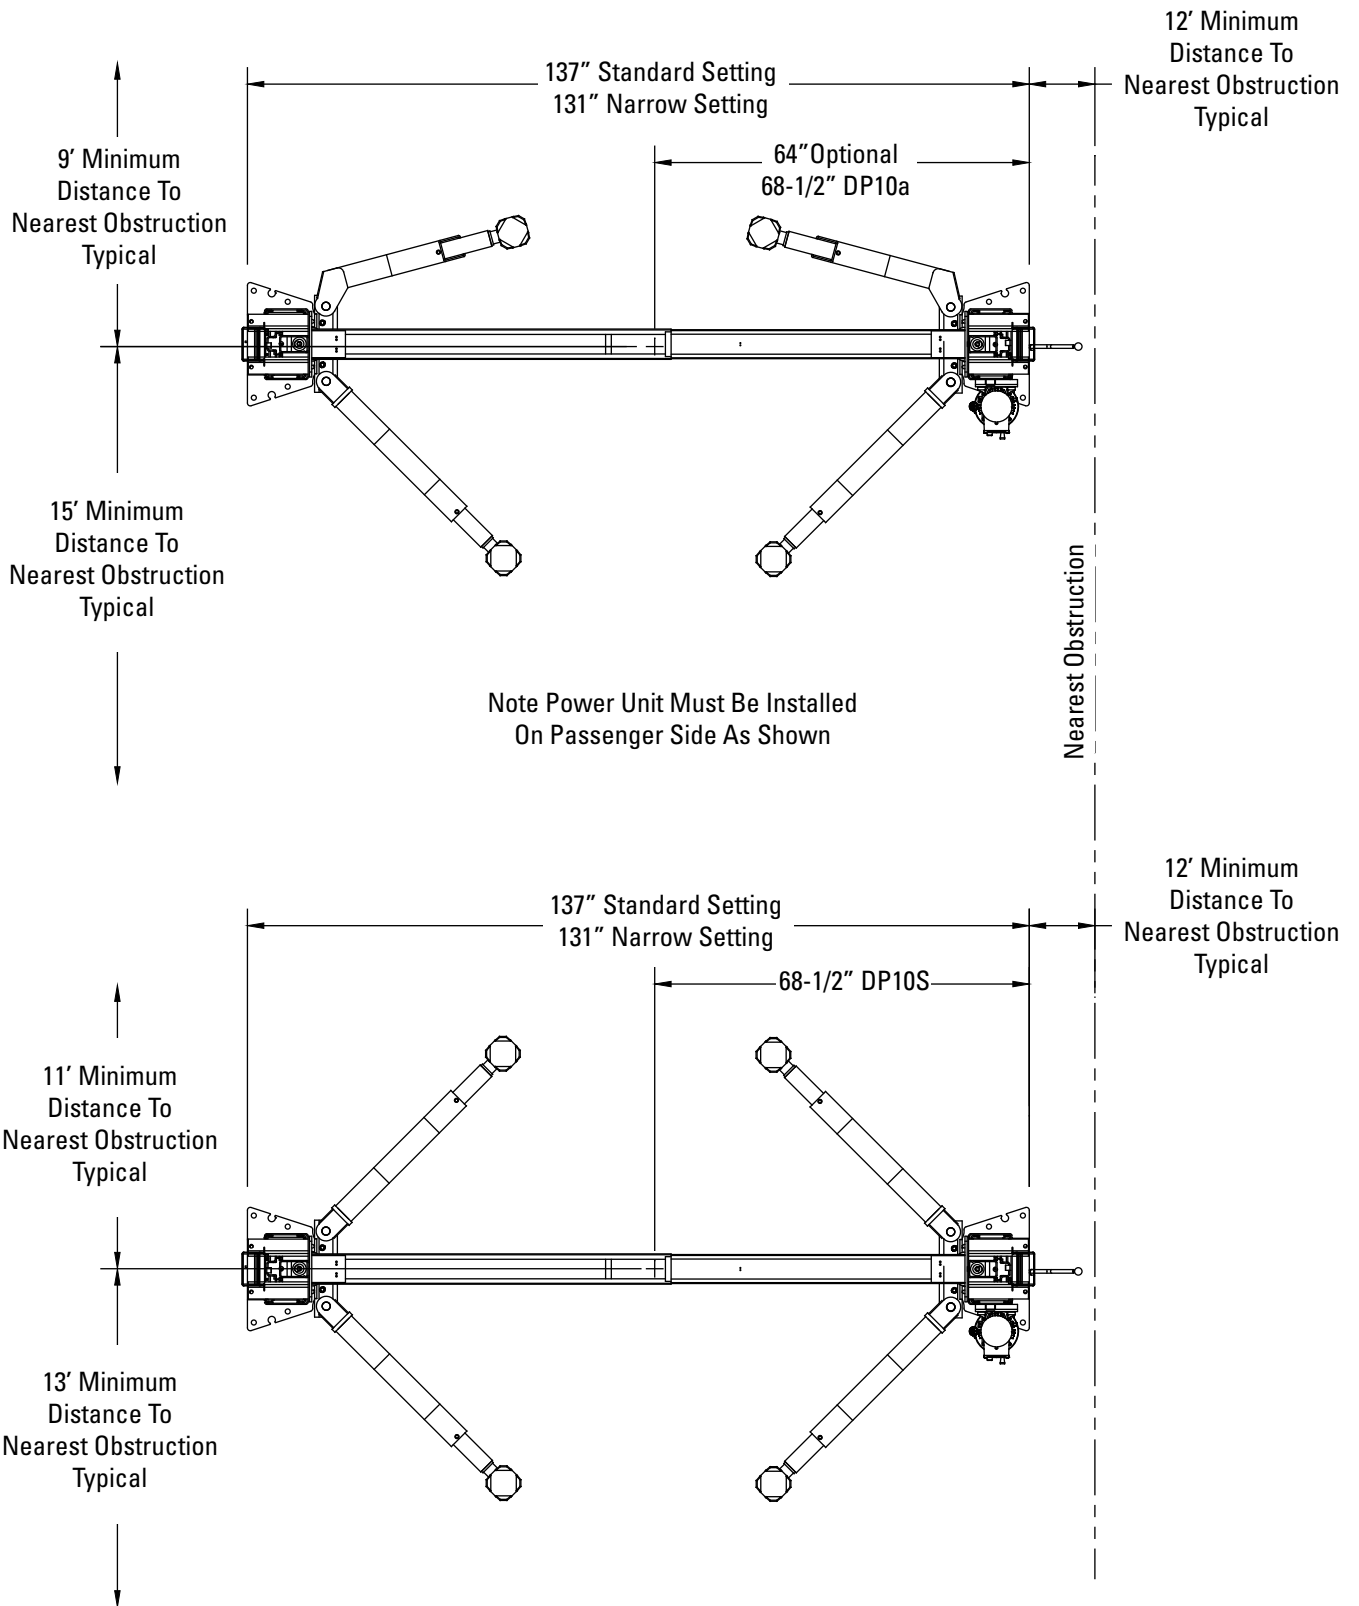

Figure 1
- A. Always use an architect's plan when provided. Before unpacking the lift entirely, determine if the site is adequate for the lift model being installed see figures 1 and 2 for typical bay layout and ceiling height requirements.